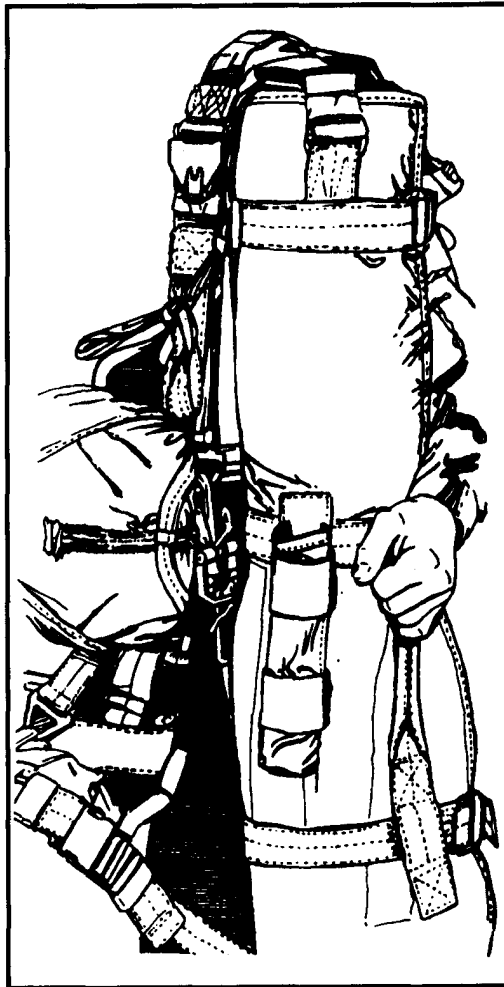

Figure 12-58. Attaching equipment to parachutist.
d. Grasp the ejector snap of the modified HPT lowering line already attached to the ALICE pack and route (from bottom to top) through the D-ring opening at the center of the pack, upper tie-down chafe loop, and top D-ring located at the aft end. Position the 18-inch strata blue marking on the modified HPT lowering line even with the D-ring on top of the AT4JP (Figure 12-58).